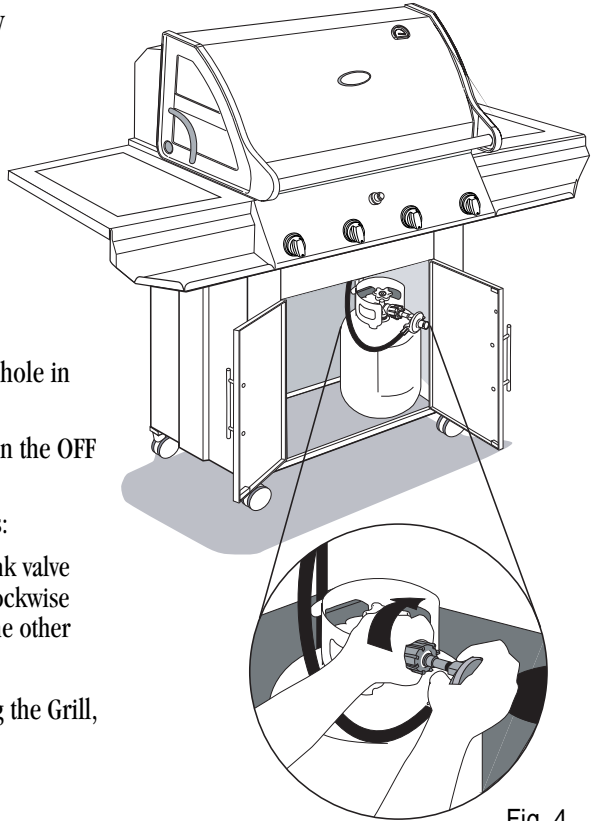

Fig. 4
- Insert the nipple of the valve coupling into the tank valve and tighten the connection collar by turning it clockwise with one hand while holding the regulator with the other (see Fig. 4).